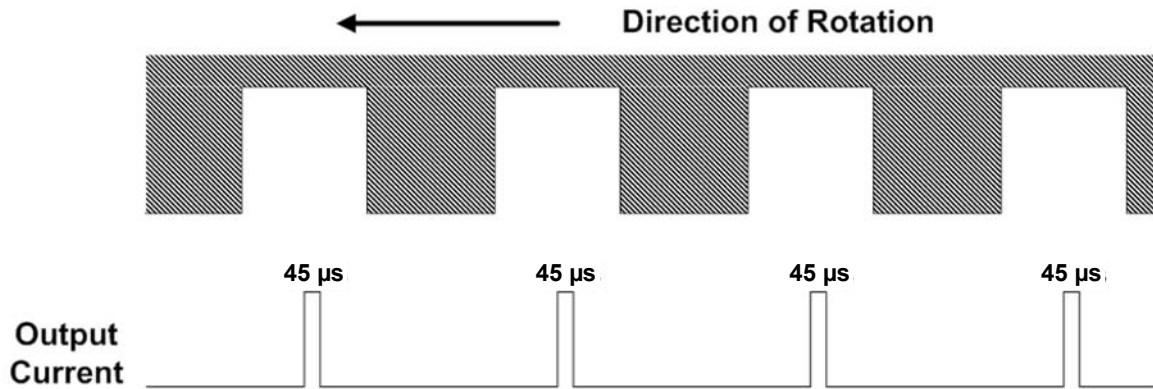

Figure 1. Target rotation to the right (CW) relative to the sensor gives forward speed.
**Rotation Right.** Referring to figure 1, a ferrous target passes in front of the sensor (not shown) in the direction indicated. Each tooth of the target generates a pulse from the sensor. Each pulse provides speed and direction data. Speed is provided by the pulse rate, while direction is obtained by measuring the width